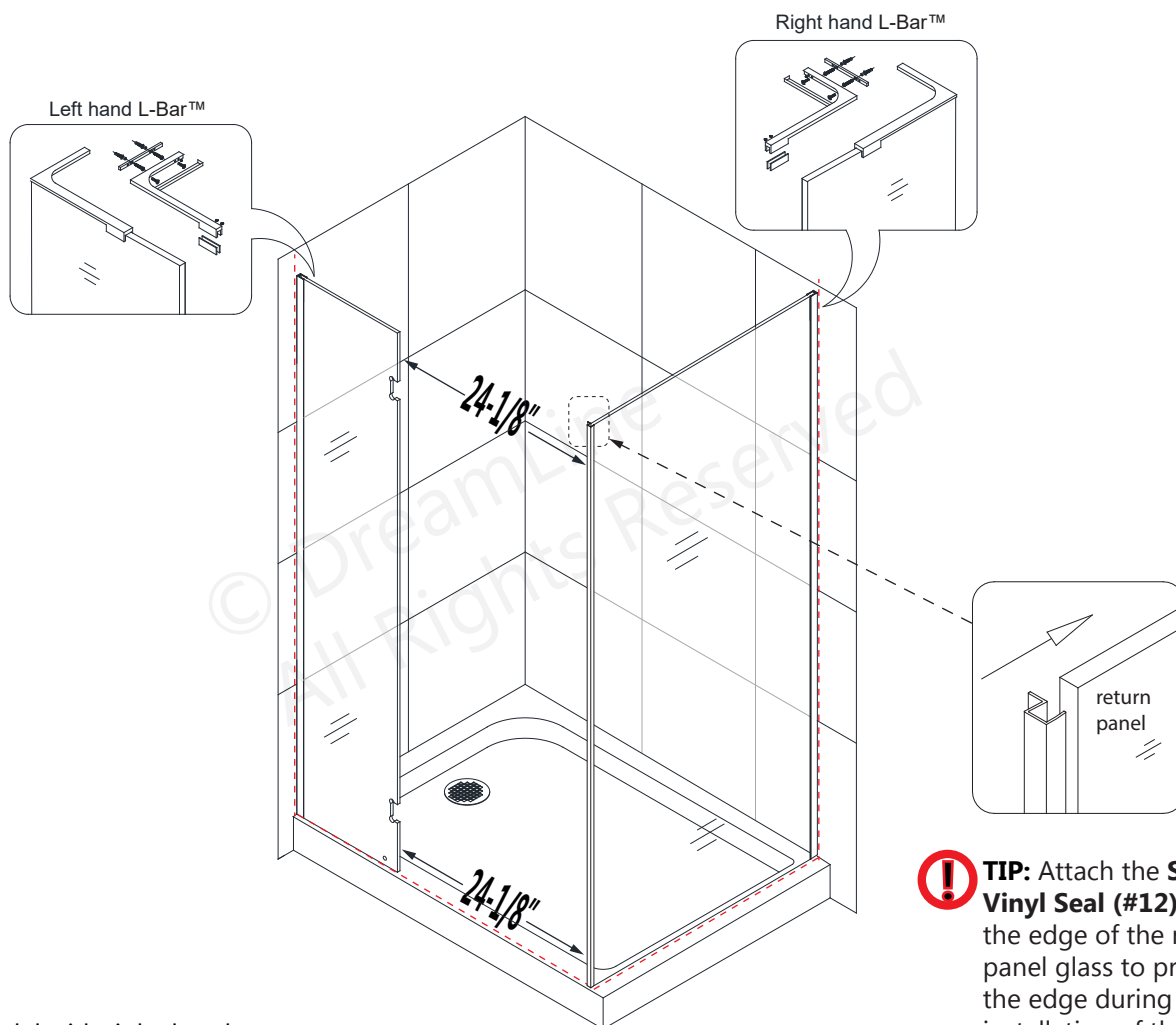

**Fig 7**
**7.** Attach the **Wall Plate (#15.6)** to the wall using the **Truss Head Screws ST4.2 x 40 (#15.7)**. Re-attach the **Left-Hand L-Bar™ (#15)** to the **Wall Plate (#15.6)** using the **Flat Head Screw M5x14 (#15.8)**. Adjust the angle if necessary by using the **Wall Plate Adjustment Set Screws (#15.9)**. **(Fig 7)**